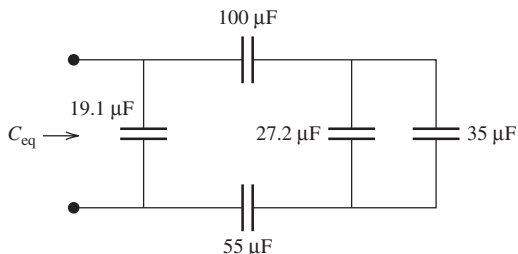

FIGURE P4.28 Circuit for Problem 4.28.
4.28 (A)* For the capacitor network in Figure P4.28, what is the equivalent capacitance, C_{eq} ?